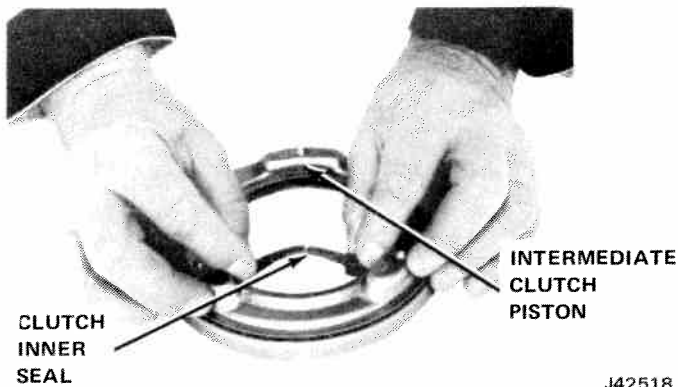

Fig. 7-88 Installing Inner Seal on Intermediate Clutch Piston
(1) Install new inner seal on intermediate clutch piston, with lip of seal facing away from spring pocket (fig. 7-88).